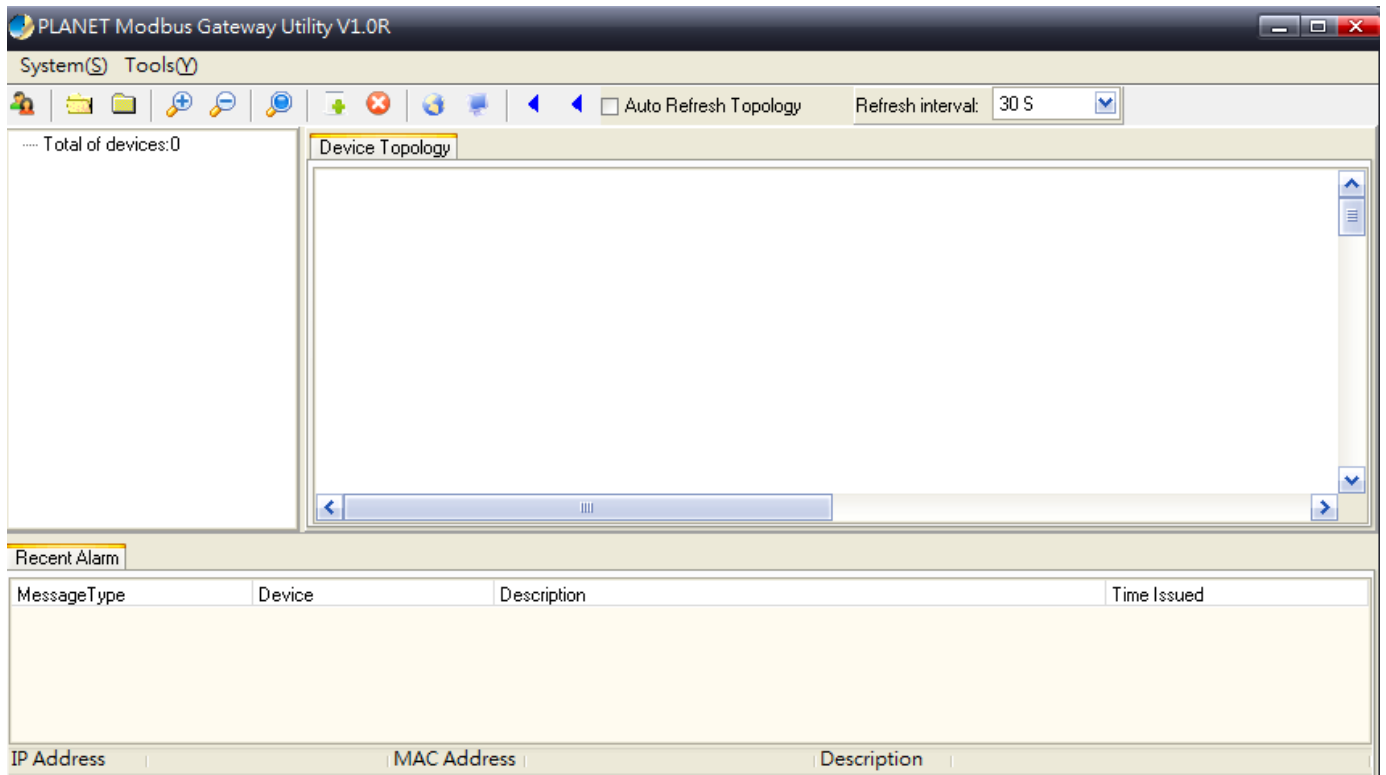

Figure 3-18: Planet Modbus Gateway Utility Main Screen
5. After the installation is completed, execute the utility. The screen in Figure 3-18 appears.